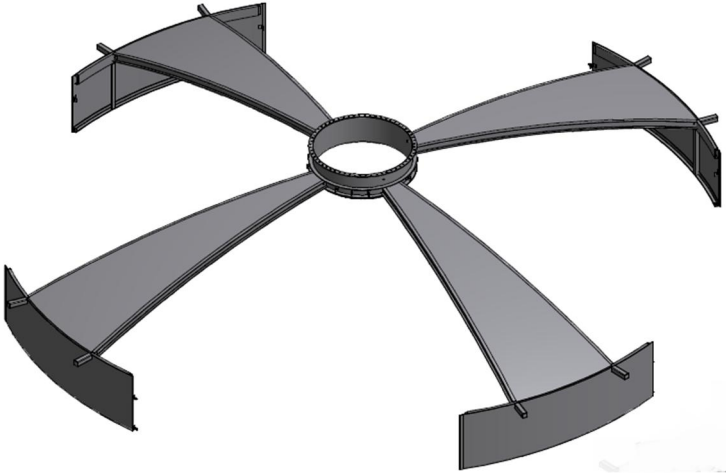

Figure 2.8 Cover Plate/Radial Beam Assemblies
2. Place side sheets along with cover plate/radial beam assemblies 180 degrees apart during installation to ensure the center ring is balanced (Figure 2.8).